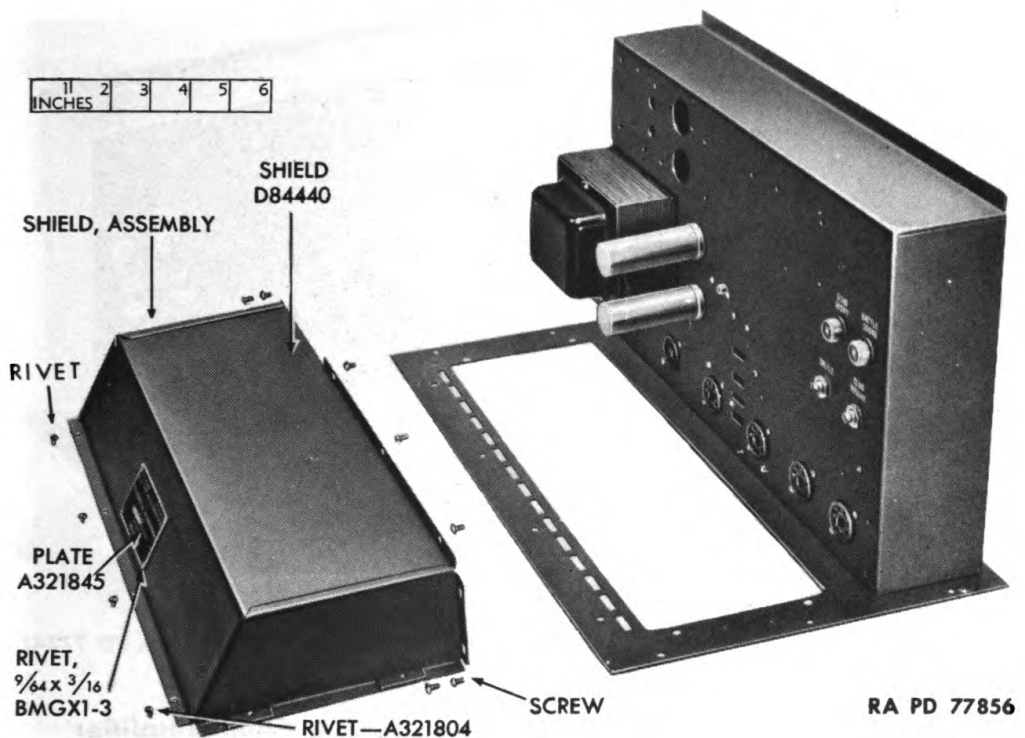

Figure 20 — Removal of Shield From Amplifier
(15) Remove the four binding head screws and the seven rivets to remove the shield assembly (fig. 20) from the chassis.